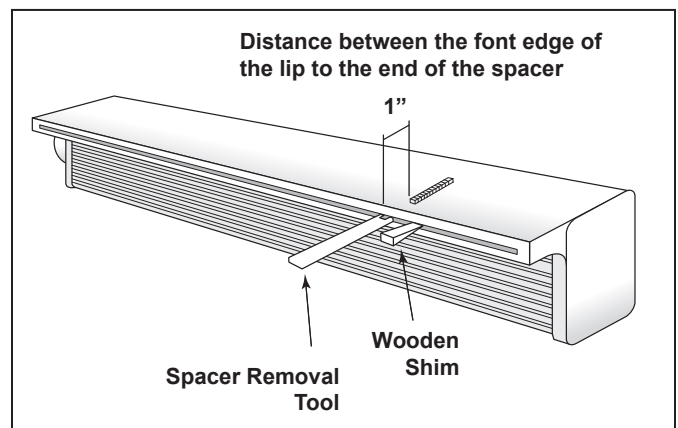

Figure 1. Replacing the Spacer
2. Measure the spacer and cut to proper length using the line on the spacer removal tool to determine distance (1") from the end of the spacer to the front edge of the lip. See Figure 1.